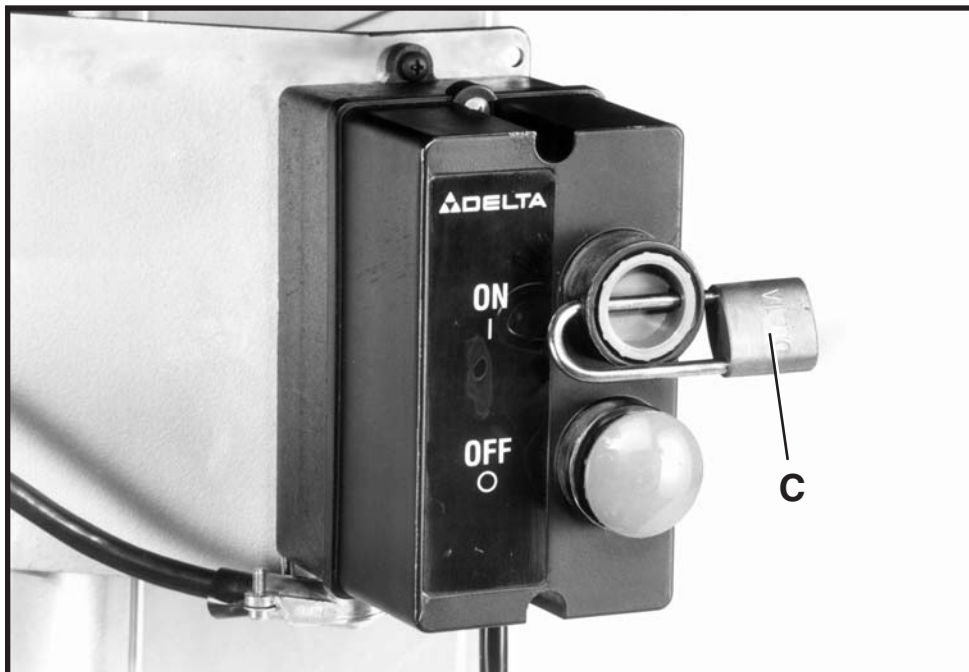

Fig. 44
IMPORTANT: We suggest that when the shaper is not in use, the switch be locked in the “OFF” position using a padlock (C) Fig. 44 , through the switch plate and “ON” button as shown.